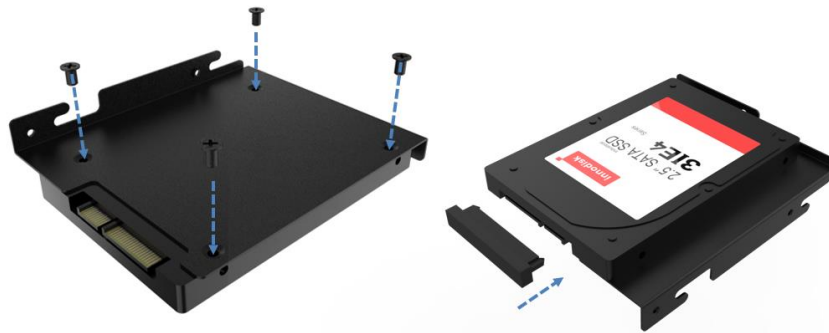

Figure 3-5: HDD Installation
- Step 2:** Plug in the hard drive cable, and install the HDD bracket back into the DRPC-240-TGL (pay attention to the positioning stud) using 3 screws (Figure 3-5).